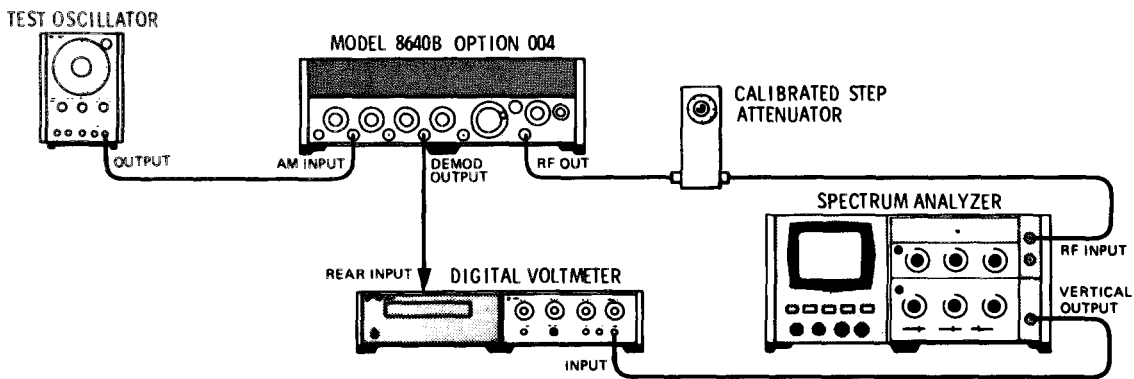

Figure 5-4. AM Accuracy Adjustment Test Setup
1. Connect the equipment as shown in Figure 5-4, after setting the Signal Generator controls as follows: